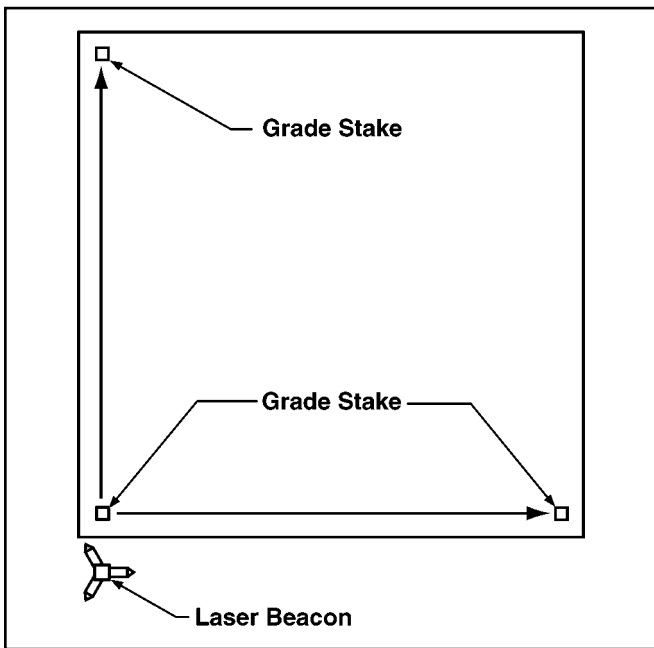

Figure 1-18 Method Two: Align Laser Beacon with Grade Stakes
2. Place the Laser Beacon a few feet (meters) behind the first grade stake and in line with one of the far grade stakes (It is not critical to align the Laser Beacon exactly) (Refer to Figure 1-18).